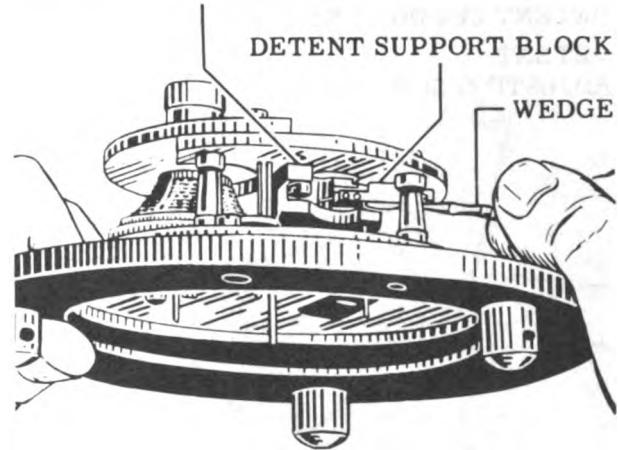

Figure 89
80. Insert the detent, wedging it in place with Tool No. 11. See Fig. 89.